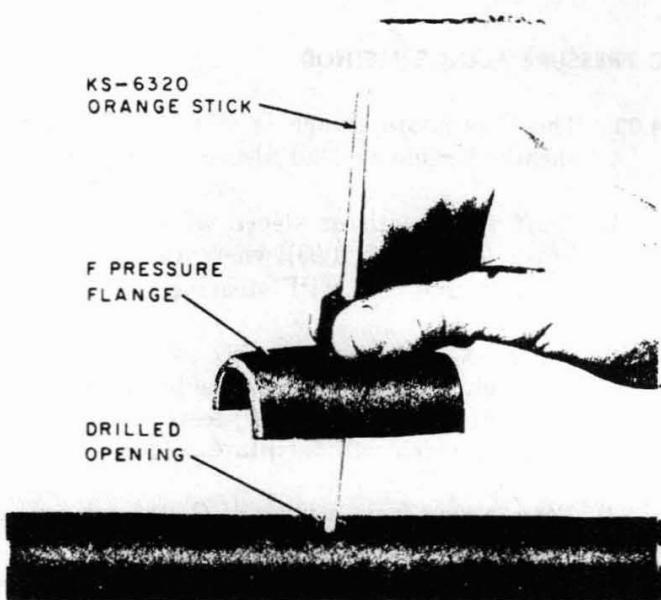

Fig. 8—Placing Flange
- (1) Scuff the surface area of the sheath to be covered by the saddle with a B carding bursh (paragraph 1.03).
- (2) Using a cable drill, drill a hole through the sheath at the pressure fitting location. **Exert light pressure on the drill to avoid pressing the cut metal edges into the core. Remove jagged metal edges with tweezers.**
- (3) Prepare the sheath by the muslin spacing method (for pulp cable only) to preserve the dielectric strength between core and sheath (Section 637-235-100). **Do not press the cut metal edges into the core.**
- (4) Apply a thin coat of C cement to the entire scuffed area around the drilled hole.
- (5) Carefully place a KS-6320 orange stick between the conductors in the center of the drilled hole and leave the stick in place.
- (6) Remove the release paper from the flange saddle. Place the orange stick through the insert opening in the flange, as shown in Fig. 8. Then press down on the saddle to seat the flange against the cable sheath.